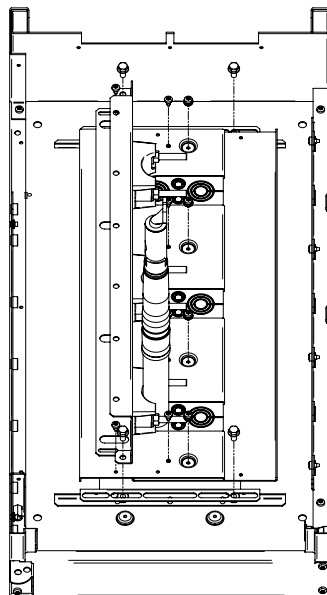

Figure 95. Installation of the floor plates, cable guide splines, cable clamps and fairleads
- c) Insert the floor plates, fairleads, cable clamps and cable guide splines, together with 8 nuts, on the floor of the unit as shown in Figure 95.